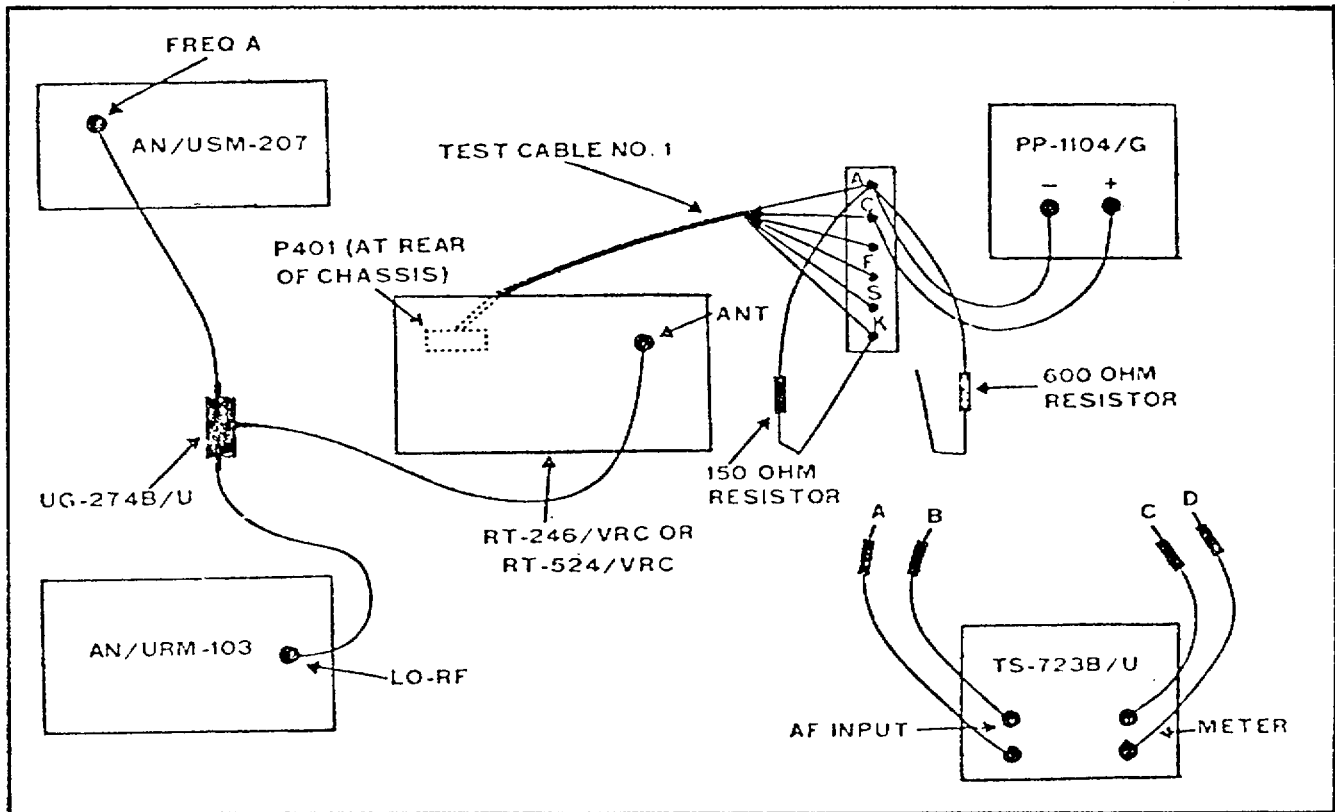

Figure B-7.
Table B-2 lists the test equipment. Figures B-7 and B-8 illustrate the various test setups.
- (1) Connect the equipment in accordance with figure B-7.
- (2) On AN/USM-207, set the controls as follows:
- (3) On AN/URM-103, set the controls as follows:
- (1) Connect equipment as shown in figure B-7
- (3) On AN/URM-103, set controls as follows: